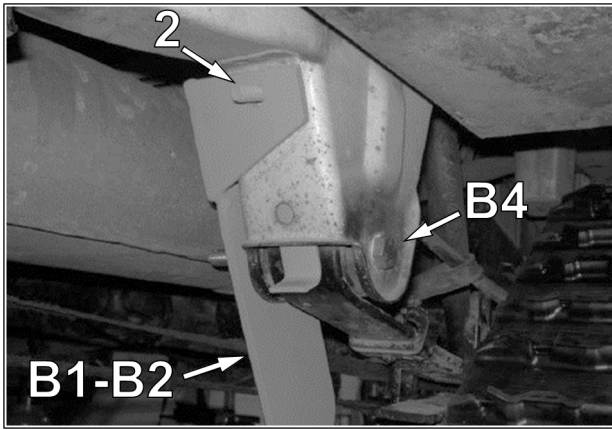

Fig. 5
6. Position anchor bracket (B1-B2) against inner side of leaf spring hanging support; slip anchor bracket over cover plate bolt (2) installed in preceding step. Use supplied flat washer (B5) and nut (B6) to secure bracket to cover plate bolt. Torque to 50 Nm [37 lb-ft]. See Fig. 5